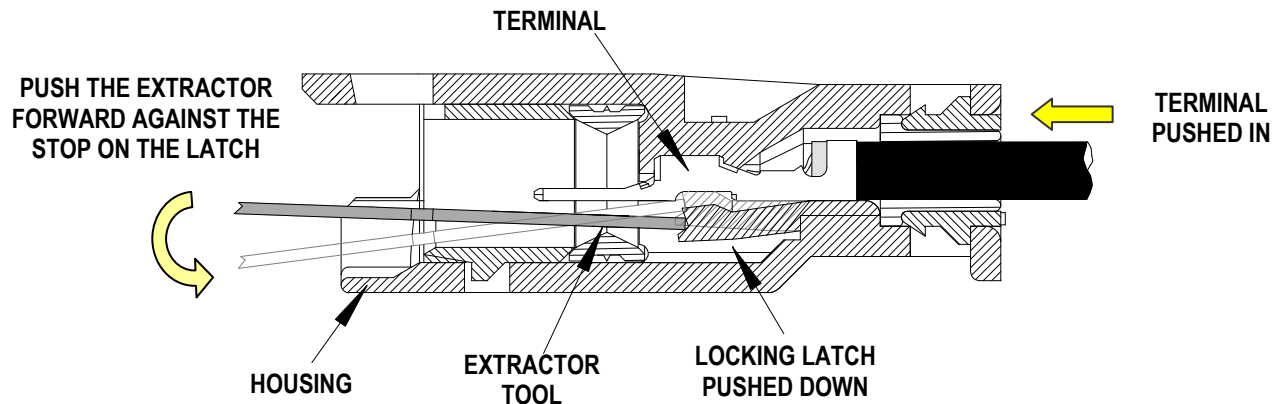

Figure 3
4. Depress the locking latch and pull the wire and terminal back through the connector slot. See Figure 3.
Figure 3 does not show an exact representation of the 51198 housing.